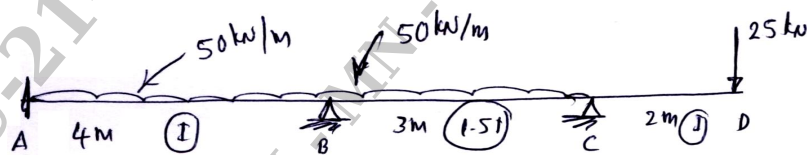

Fig.Q.5
- 5 Analyze the continuous beam loaded shown in Fig.Q.5 by Kani's rotation method. Draw BMD. (20 Marks)